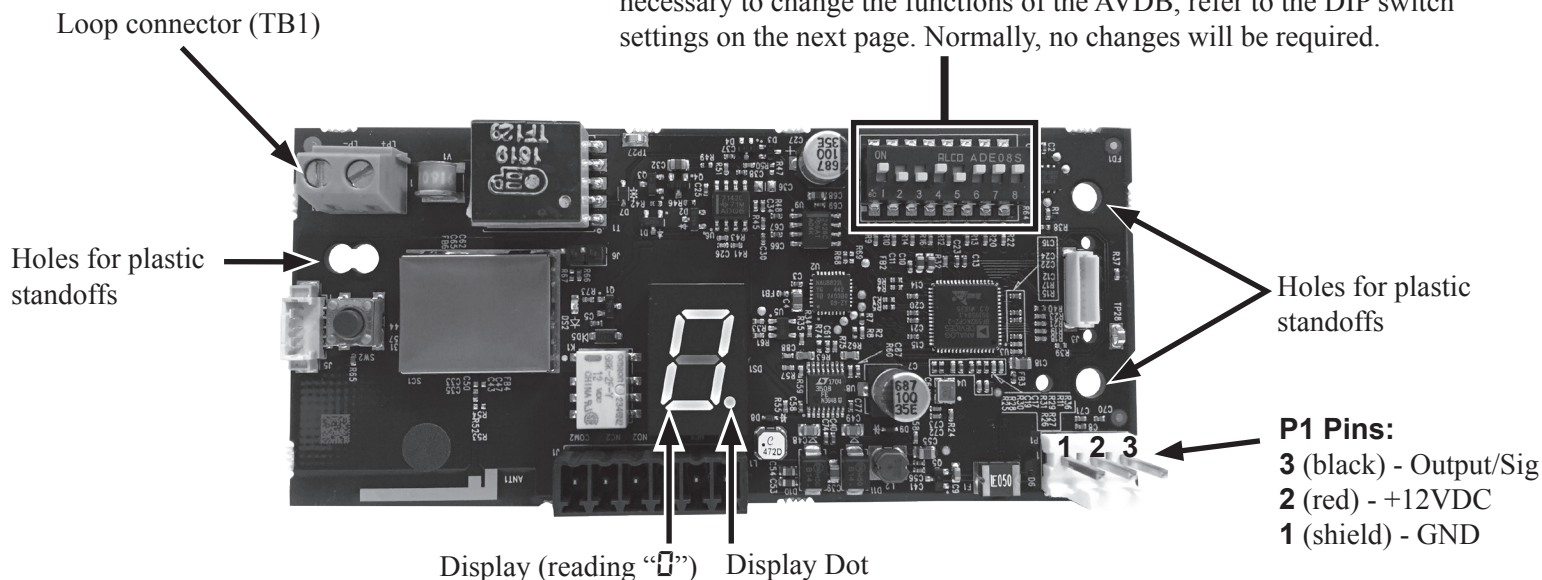

Figure 1. Advanced Vehicle Detector Board (AVDB)
6. Connect the loop cable to TB1 at the upper left corner of the AVDB. See **Figure 1**, above.
7. Position the AVDB over the three plastic standoffs on the base station or control unit circuit board and press it firmly until the standoffs snap through the holes on the AVDB. See **Figure 1** for hole locations.
8. Connect the AVDB interconnect cable to P1, at the lower right corner of the AVDB. See **Figure 1**. Be certain the plastic catches on the cable connector are aligned with the plastic catches on the P1 connector. The color-coded connector wires must also match the pin positions shown on **Figure 1**.